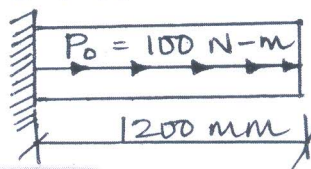

Fig. Q4 (a)
- 4 a. Determine the nodal displacement and elemental stresses for a bar subjected to uniform distributed load 'P0' as shown in Fig. Q4 (a). Given  $E = 70 \text{ GPa}$  and  $A = 10^4 \text{ mm}^2$ .